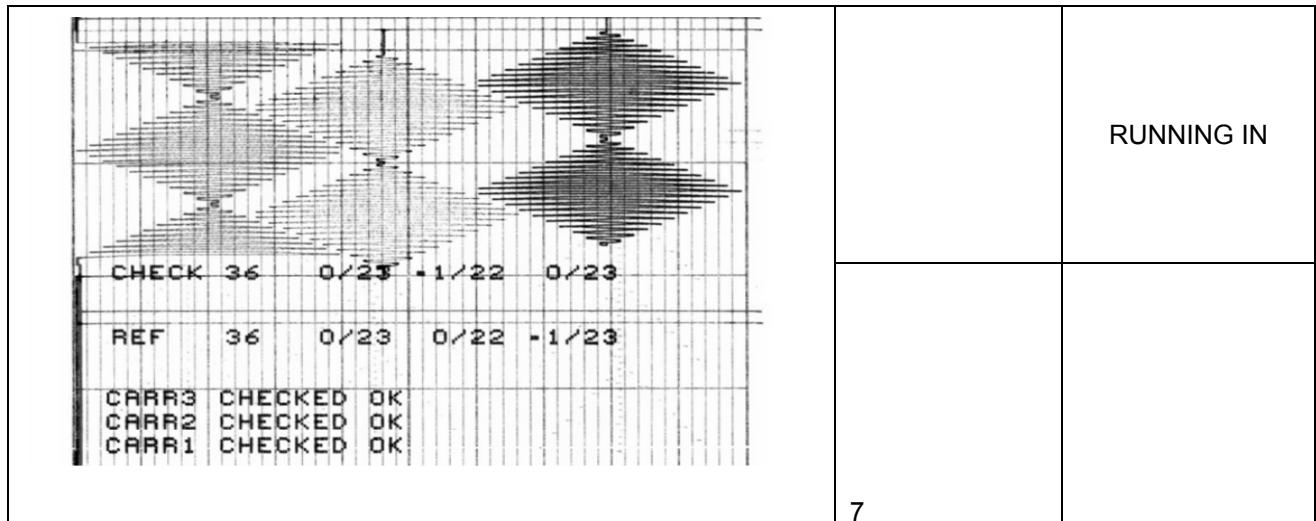

Figure 10-1
- ✓ For each channel, an adjustment check is executed at the end of the diagnostic. See figure 10-1 ref. 7.
10.2.1.2 Running in pen recorder (See fig. 10-1)